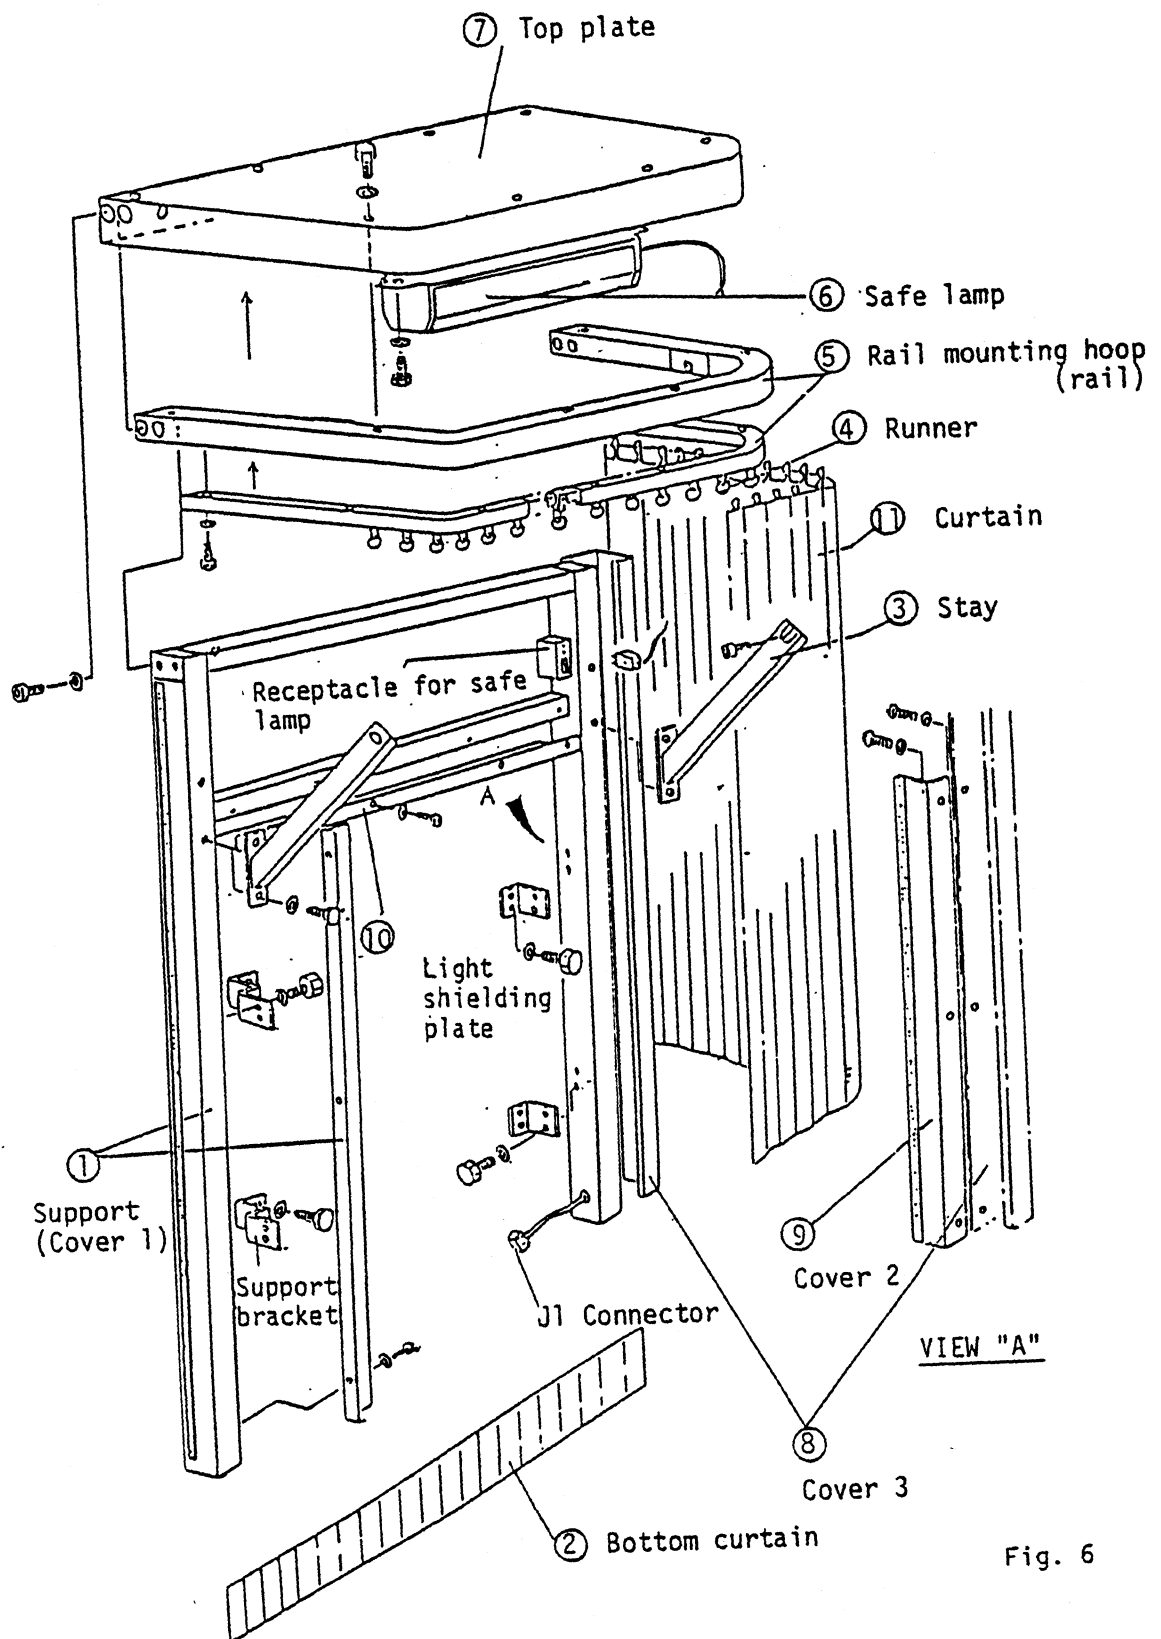

Fig. 6
- (28) Assemble the miniature darkroom. See Fig. 6.